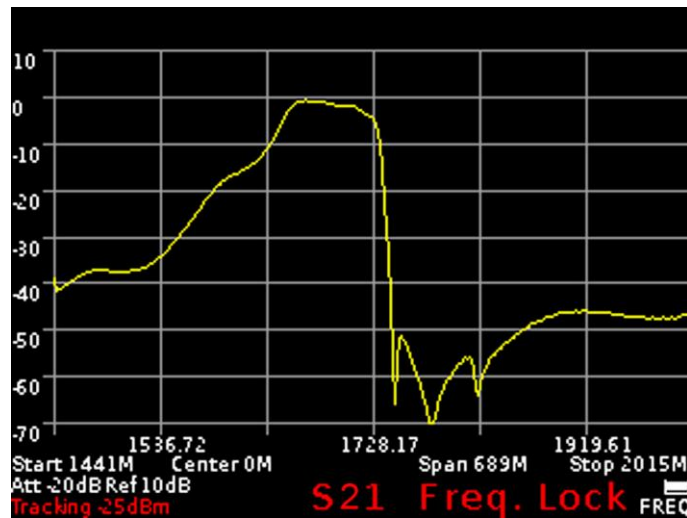

Figure 17 – Determination of the amplitude-frequency characteristics of the equipment under test
7.6.7. To determine the amplitude-frequency characteristic of the equipment under test, select the **S21** mode, as shown in Figure 17. On the screen below the grid, the display of the **S21** mode and the warning **UNCAL (not calibrated)** appear in the information box.
On the screen under the grid in the information label will display the mode **S21** and the message **Freq. Lock (frequency cannot change)** (Figure 17).